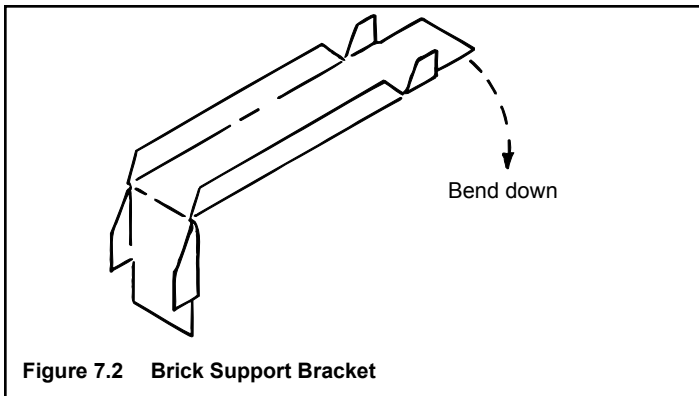

Figure 7.2 Brick Support Bracket
- Bend ends as shown in Figure 7.2.